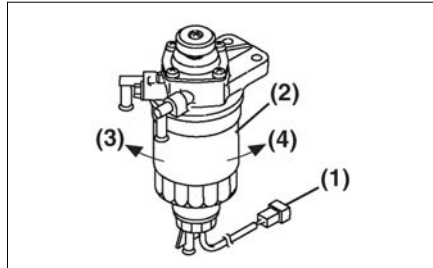

Figure 5-14
3. Disconnect the fuel filter sensor connector (**Figure 5-14, (1)**).
6. Remove the fuel filter (**Figure 5-14, (2)**) by turning it to the left (Figure 5-14, (3)). Wipe up all spilled fuel.
17. Install the new fuel filter (Figure 5-14, (2)) by turning it to the right (Figure 5-14, (4)) until it contacts the mounting surface. Tighten one additional turn.
19. Reconnect the fuel filter sensor connector (Figure 5-14, (1)).